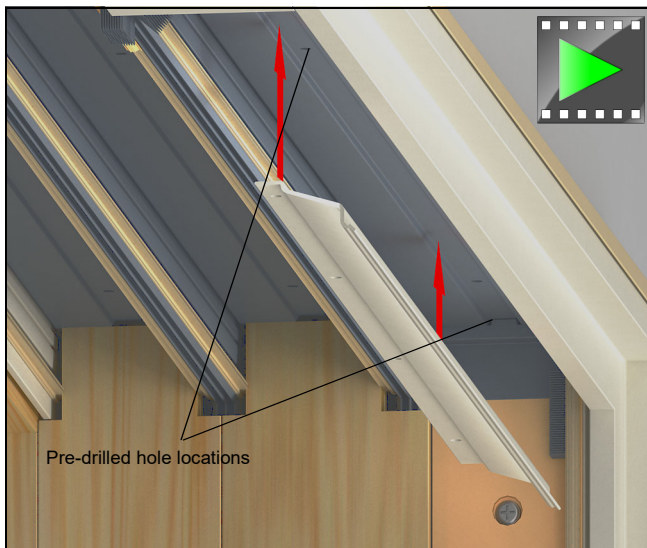

Figure 110
9. Remove tape from head jamb structural clip in head jamb and fasten using #8 x 3" black installation screws through all the pre-drilled holes. See figure 110.